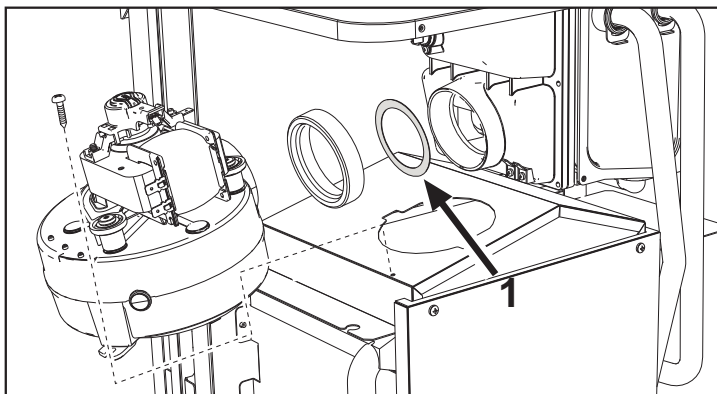

fig. 11
To replace the baffle (ref. 1 - fig. 11), proceed as indicated in fig. 11.